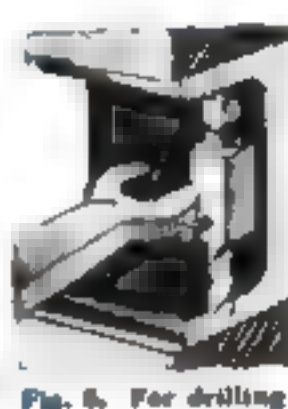

Fig. 5. For drilling
**T**HE drilling attachment shown in Fig. 5, was devised for drilling between the flanges of an I-beam where the usual ratchet wrench was too long to permit of its use. There are many places where such a drill will work to advantage.